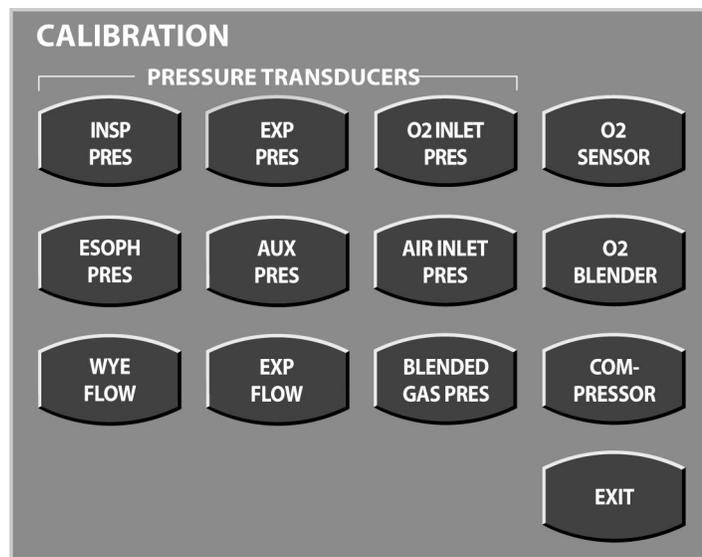

Figure 7.3 Calibration Menu Screen
3. The Calibration menu screen will appear (see figure 7.3).